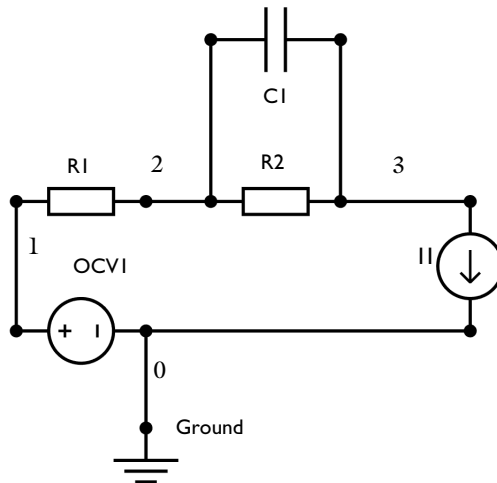

Figure 1: Equivalent Circuit diagram used for modeling the Ni-MH battery. The numbers denote the node numbers in the Battery Equivalent Circuit interface.
Figure 1 represents the equivalent circuit used in this simulation. The series resistance (R1) represents the ohmic resistance and the RC couple (a resistor-R2 and capacitor-C1 connected in parallel) represents the charge transfer polarization process. The time constant for the RC couple is assumed to be 15 s. The Battery Open Circuit Voltage node (OCV1) requires battery open circuit voltage data, E_{OCV} (V), as a function of state of charge. Initial battery capacity and state of charge are also required as inputs for the Battery Open Circuit Voltage node.
The fundamental equations solved for in the Battery Equivalent Circuit interface are Kirchhoff's current and voltage laws. A current balance for each branch node (see Figure 1) is defined as: